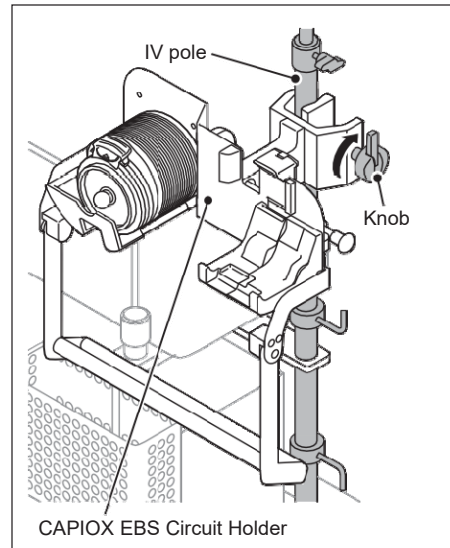

Figure 1-79
1. **Attach the CAPIOX EBS Circuit Holder to the IV pole, and secure it with the knob. (Figure 1-79)**